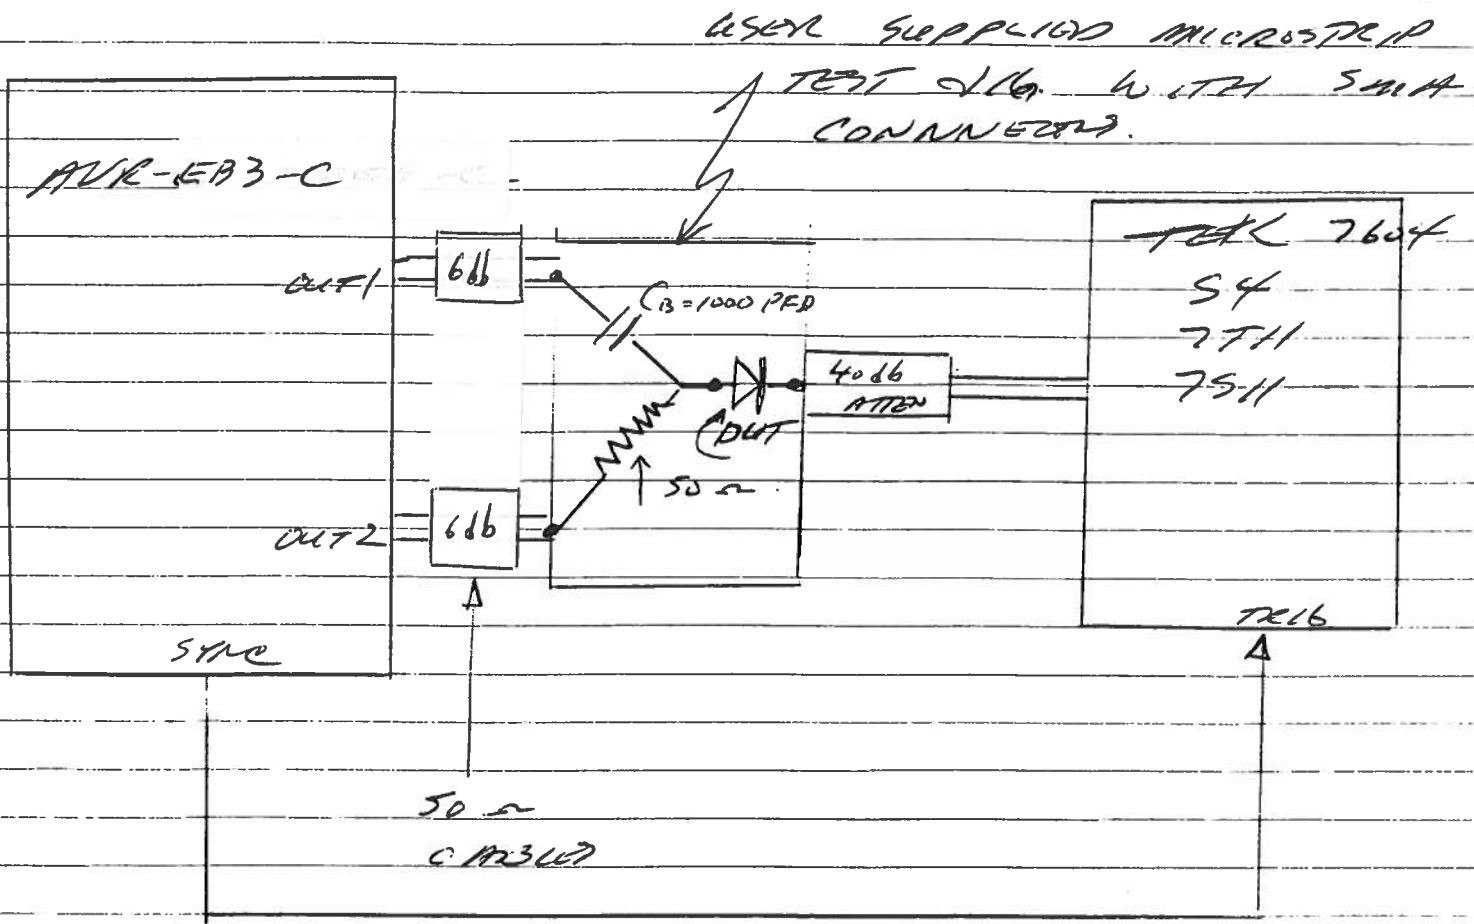

FIG 1A. BASIC TEST SET UP
- 6) Connect to diode test jig as shown in Fig. 1A. Note the use of 6 db attenuator pads. CAUTION: Channel 1 of the pulse generator provides a rise time of $\ll 1.0$ ns. Consequently, the user supplied diode test jig must be extremely broad band or the pulse rise time will be degraded and severe ringing will be observed. It is recommended that the test jig be constructed on microstrip employing high quality connectors (eg. SMA), microwave capacitors and resistors and that the diode lead lengths be less than 0.2 cm.